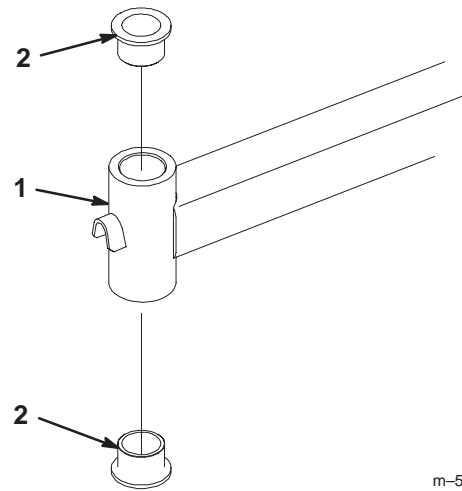

Figure 61
4. Insert a pin punch into the mounting tube and carefully drive out the bushings (Fig. 61). Clean the inside of the mounting tube.